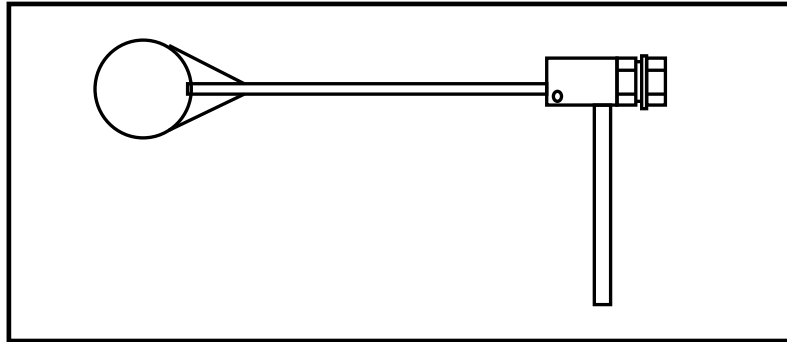

FIGURE 4.6
4.6 FIGURE 4.6 below is a sketch of a component used in a cistern.
- 4.6.1 Identify the item in FIGURE 4.6. (1)
- 4.6.3 Name ONE type of material that can be used to manufacture the round part of the object identified in FIGURE 4.6. (1)